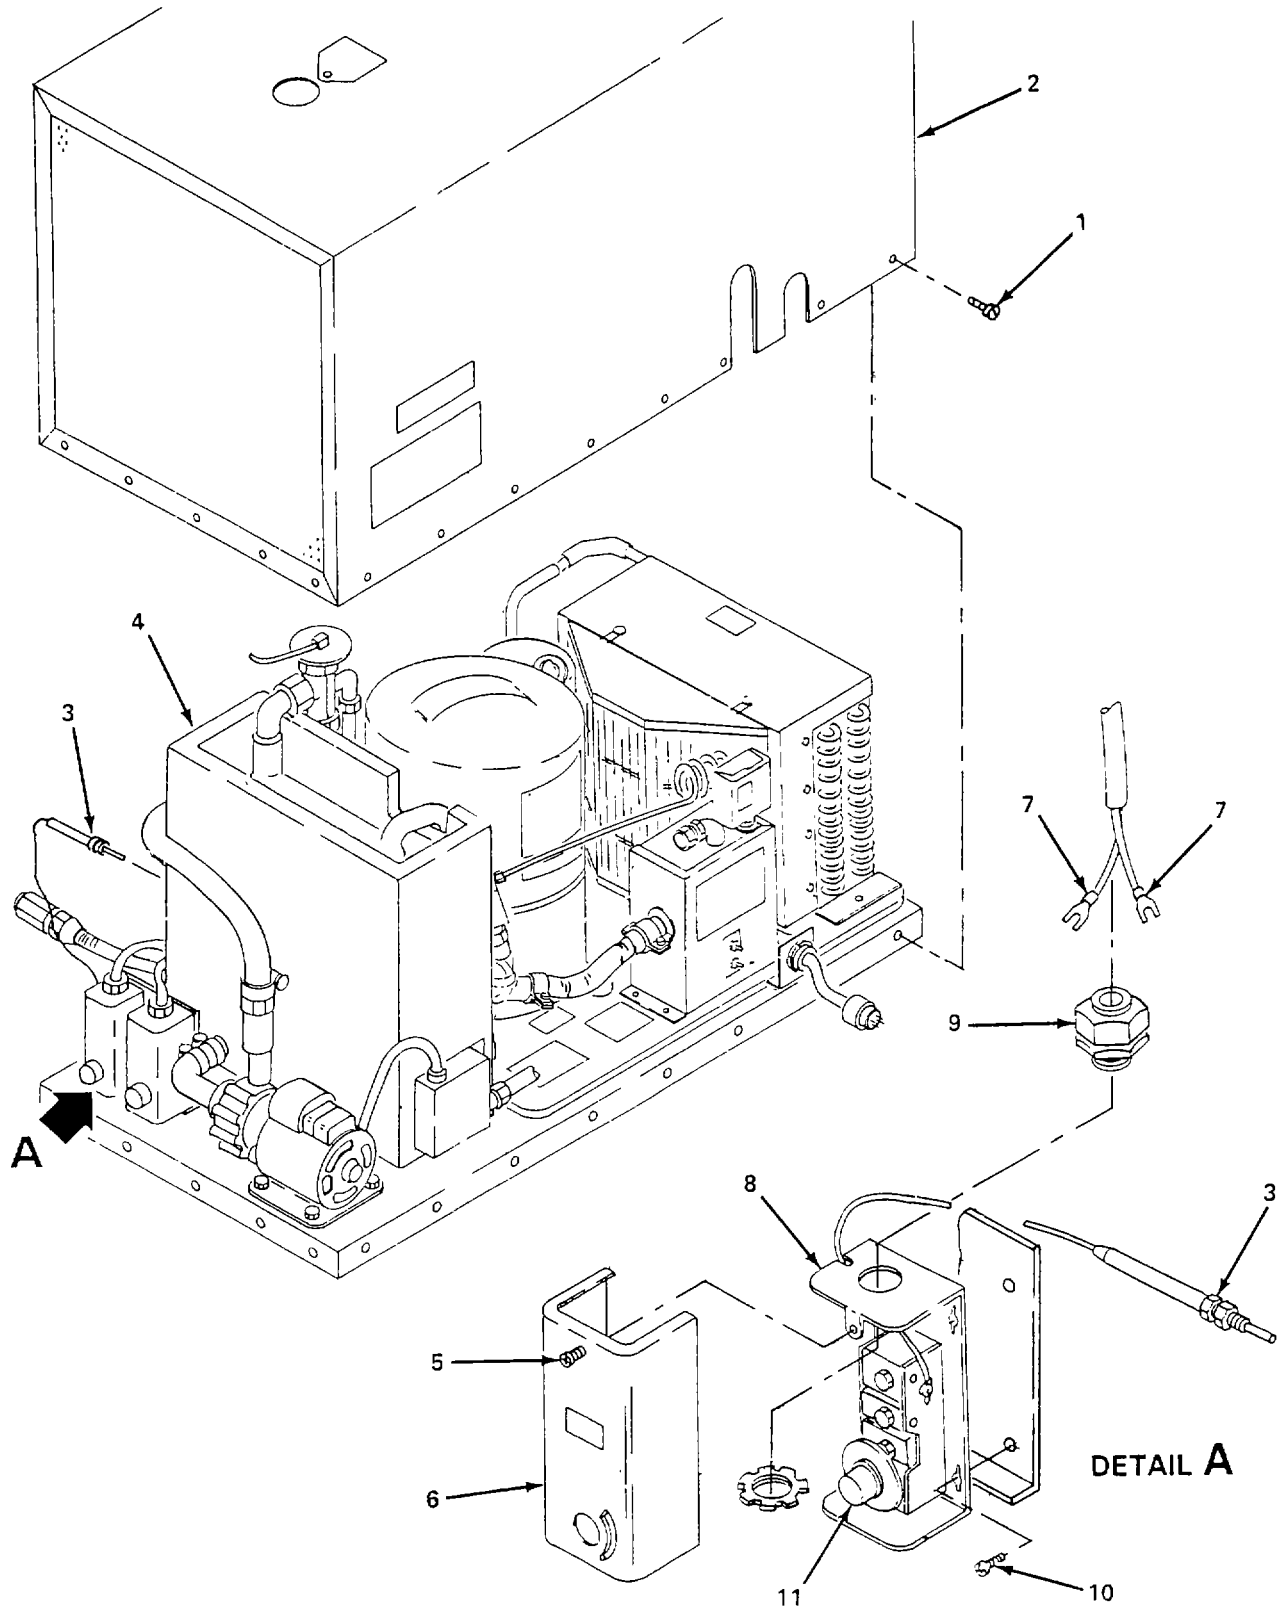

Figure 6-34. Low Temperature Control Unit, Replace.
a. Replace. (figure 6-34)
- (1) Remove 14 screws (1) and remove cover (2).
- (2) Remove packing nut assembly (3) from reservoir (4)
- (3) Loosen captive screw (5) from cover (6).
- (4) Tag and disconnect two wires (7) from control unit (8).
- (5) Remove cable connector (9) and remove two wire (7).
- (6) Remove two screws (10) and remove control unit (8).
- (7) Install control unit (8) and secure with two screws (10).
- (8) Install two wires (7) through cable connector (9) and install connector on control unit (8).
- (9) Connect two wires (7) to control unit (8).
- (10) Set low temperature to 32°F (0°C) by adjusting control knob (11).